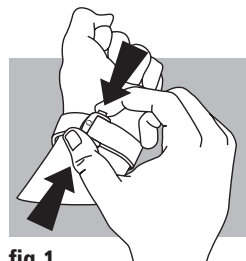

fig. 1
### Helium escape valve (fig.1)
**Opening (fig. 1):** to open the clasp, press the two pushers on either side of the OMEGA buckle and pull upwards.